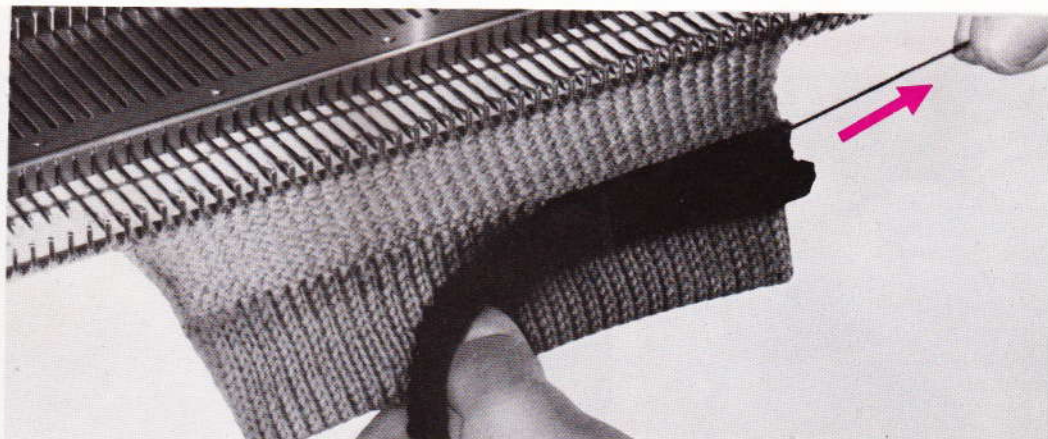

Fig. 60
11. When the work is completed, the piece knitted with the waste yarn is removed by cutting the stitch at the left hand end of the waste yarn and pulling it out (fig. 60). Press according to instructions indicated on the ball band of the yarn being used.
11. When the work is completed, the piece knitted with the waste yarn is removed by cutting the stitch at the left hand end of the waste yarn and pulling it out (fig. 60).